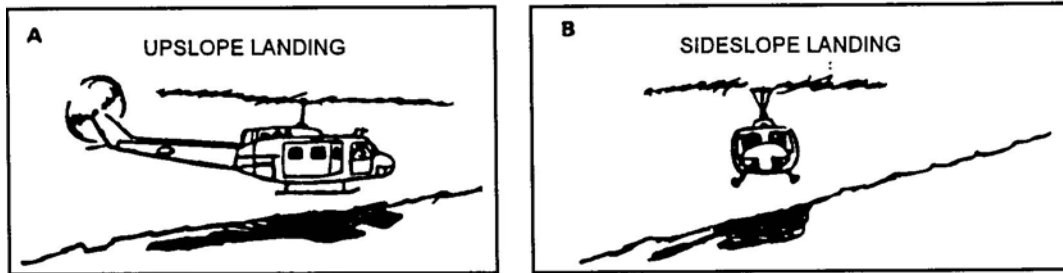

Figure 2. Ground slope of landing site.
- b. The ground slope of the landing site (Figure 2). When selecting the landing site, the ground slope must be no more than 15 degrees. Helicopters cannot safely land on a slope of more than 15 degrees.
- (1) When the ground slope is under 7 degrees, the helicopter should land up slope (Figure 2, A).
- (2) When the ground slope is 7 to 15 degrees, the helicopter must land side slope (Figure 2, B).